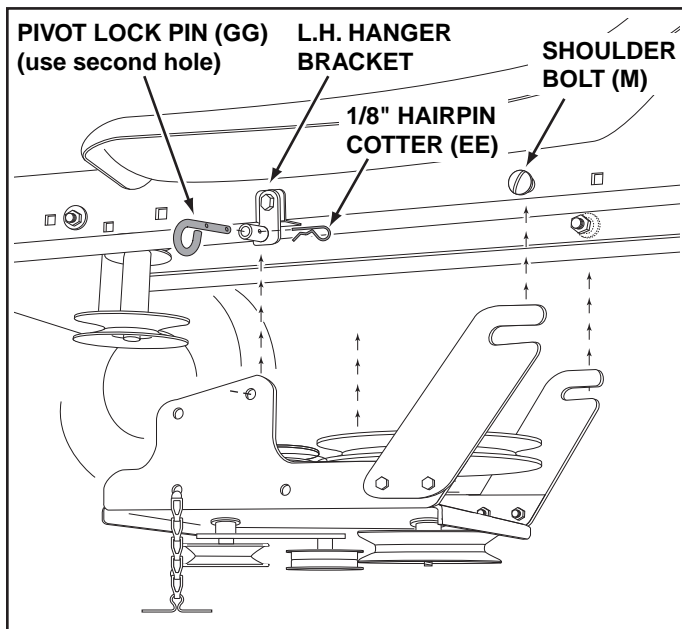

FIGURE 18 VIEWED FROM LEFT SIDE
STEP 19: (SEE FIGURE 18)
- Attach the clutch/idler assembly to the tractor frame. Hook the notched suspension arms onto the two shoulder bolts (M) assembled to the outside of the tractor frame. Lift the front of the assembly and attach it to the R.H. and L.H. hanger brackets using two pivot lock pins (GG) and 1/8" hairpin cotters (EE).